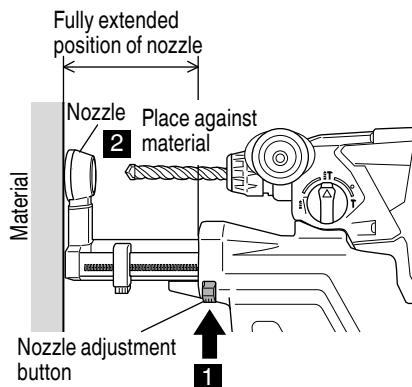

Fig. 5
2. Adjusting the nozzle position (Fig. 5, 6, 7)
- (1) Press the nozzle position adjustment button and ensure that the nozzle is in the fully extended position. (Fig. 5)
- (2) While holding the tool in a way so that the switch does not get pressed, place the nozzle against the material to be drilled. (Fig. 5)